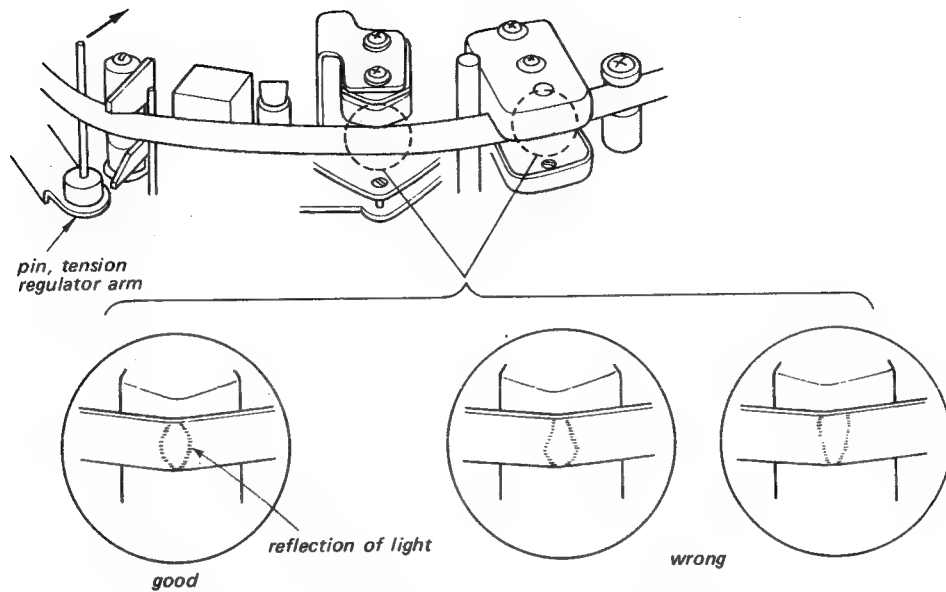

Fig. 12-6 Tentative record and p.b. heads adjustment
- (4) Turn the record head height adjusting screw so that the upper edge of the record head is 0.025 mm lower than that of the tape and memorize the angle of turns.
- (5) Turn the record head zenith adjusting screw by the same angle of turns to the same direction of the record head height adjusting screw.
- (6) Set the machine at 19 cm/s ($7\frac{1}{2}$ ips) tape speed.
- (7) Make the tape loose a little by pushing the tension regulator arm pin in the direction shown with arrow in Fig. 12-6 and then adjust the p.b. head and the record head zenith adjusting screws to obtain the reflection of light as shown in Fig. 12-6.